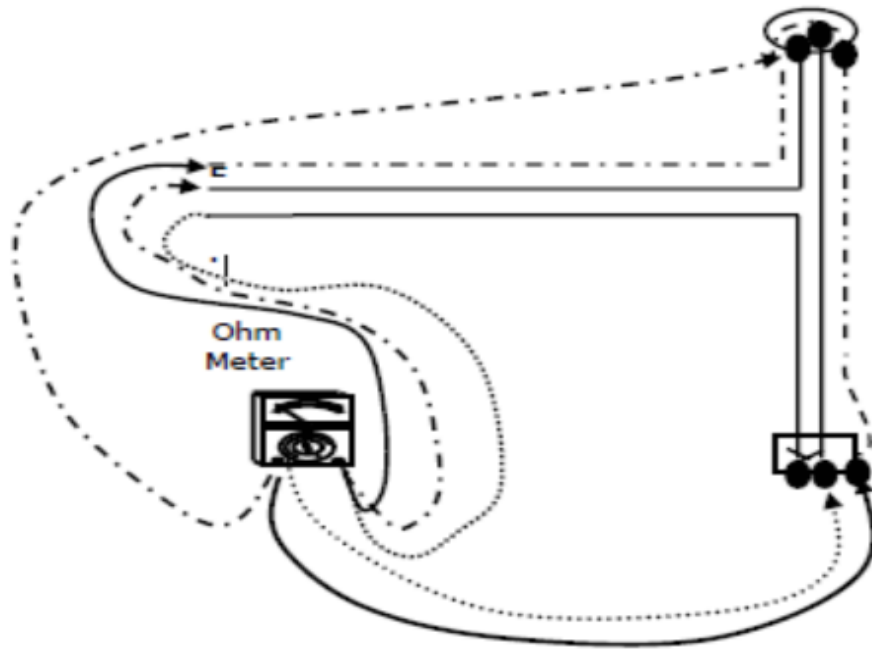

Figure 2.3 - Live and Neutral Conductor Continuity Test
- Carry out the test as shown in Figure 2.3;